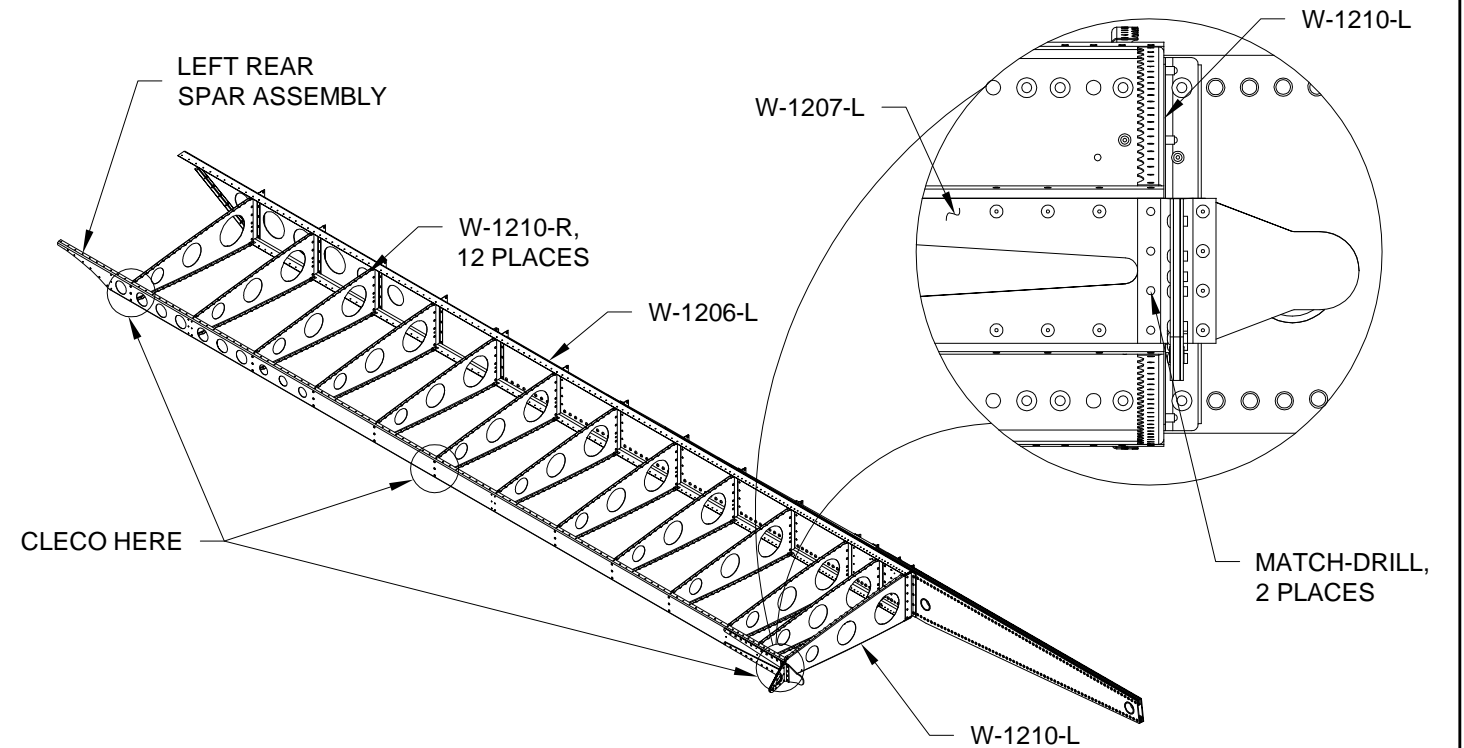

FIGURE 3: MATCH-DRILLING MAIN RIB AFT FLANGE
Step 7: Cleco the Left Rear Spar Assembly to the aft flanges of the W-1210 Main Ribs as shown in Figure 3.
Step 8: Match-drill #30 the hole locations in the aft flange of the main rib as shown in Figure 3. Remove the clecos and the Left Rear Spar Assembly and deburr match-drilled holes as required.